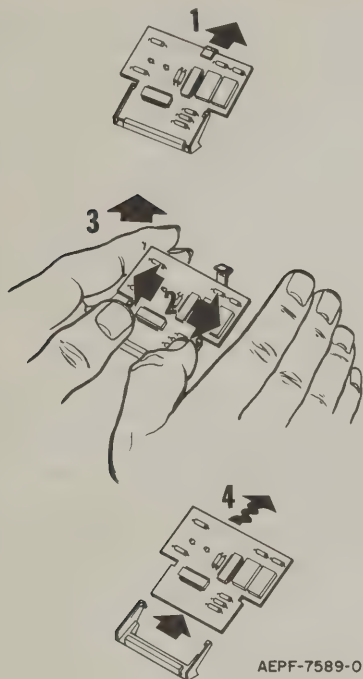

Figure 21.
(1) Disengage the spring retaining clip from the top edge of the display circuit board. Refer to Figure 21.
(2) Grasp the display circuit board holder as shown in Figure 21. Use the thumbs to push on the sides of the circuit board holder to disengage its locking device.
(3) When the locking device is free from the circuit board and while still applying pressure with the thumbs, use the index fingers to raise the circuit board slightly above the locking device of the circuit board holder.
(4) Grasp the top edge of the circuit board and "walk" or wiggle the circuit board out from its connector.